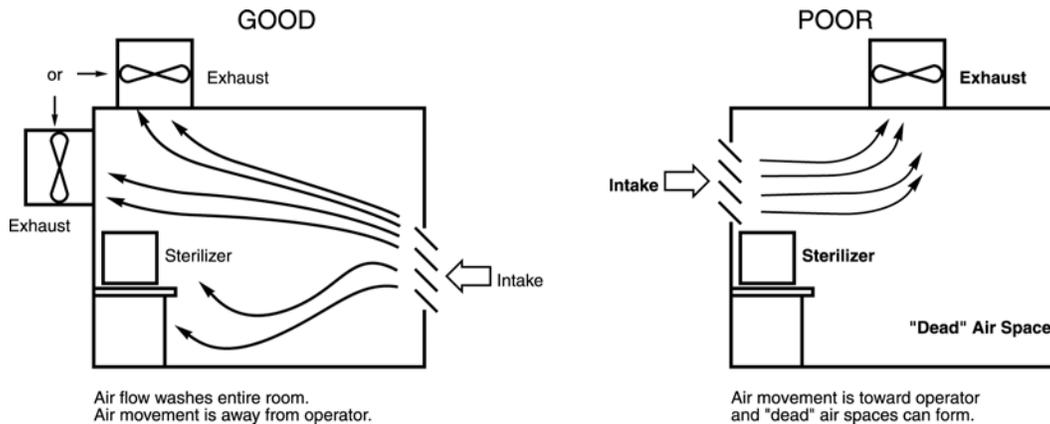

Figure 3. Ventilation Requirements.
- ❑ The location is well-ventilated with at least 10 air changes per hour. The flow of air is away from the equipment operator (see Figure 3). Recommended room size is 30 m³ (1,000 ft³).